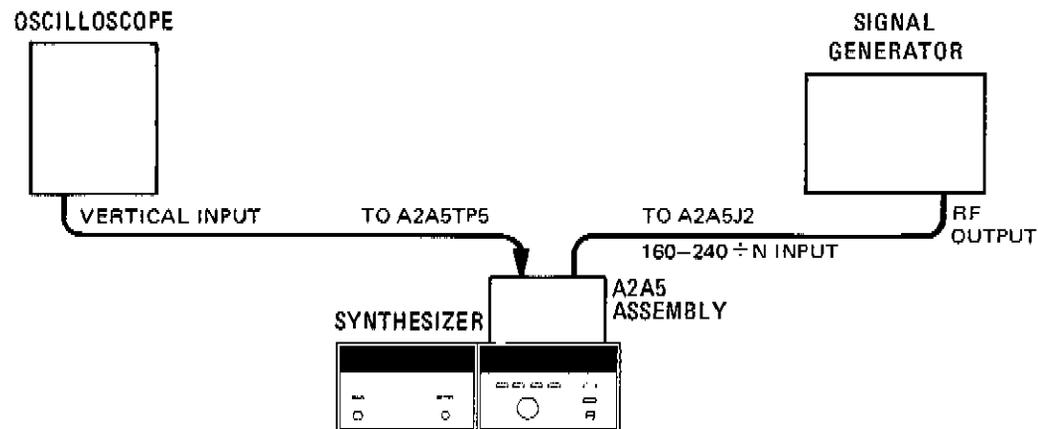

Figure 5-11. 20/30 MHz Loop Divider Bias Adjustment Test Setup
7. Connect the equipment as shown in Figure 5-11.